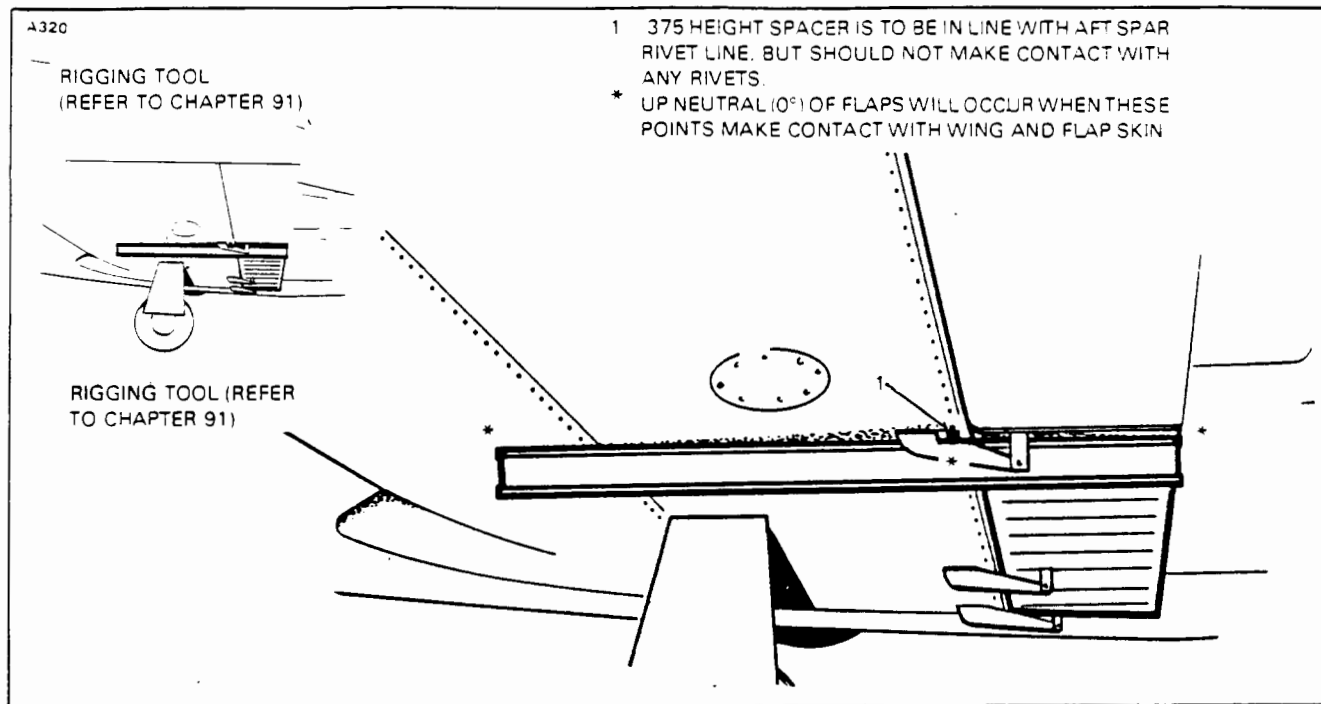

Figure 27-21. Flap Rigging Tool
6. To check the up-neutral position of the flaps place a flap rigging tool as shown in Figure 27-21 against the underside of the wing and flap as close as possible to the outboard end of the flap without contacting any rivets. (Refer to Chapter 91 for dimensions to fabricate this tool.) The tool must be positioned parallel with the wing ribs, with the aft end of the tool even with the trailing edge of the flap.